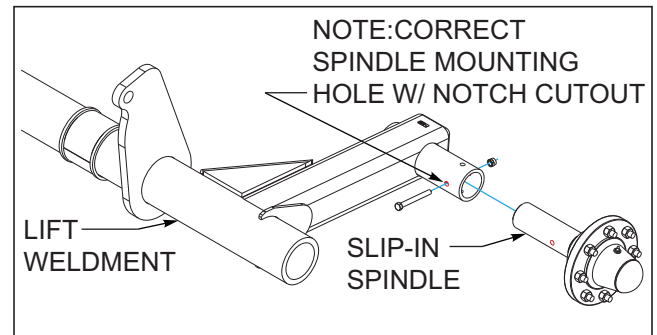

Figure 3-4: Spindle Mounting 1760-35'
1. The slip-in spindle should be in the inner most hole in tube. This hole has a notch cutout for a visual, **See Figure 3-4** for model 1760-35'.